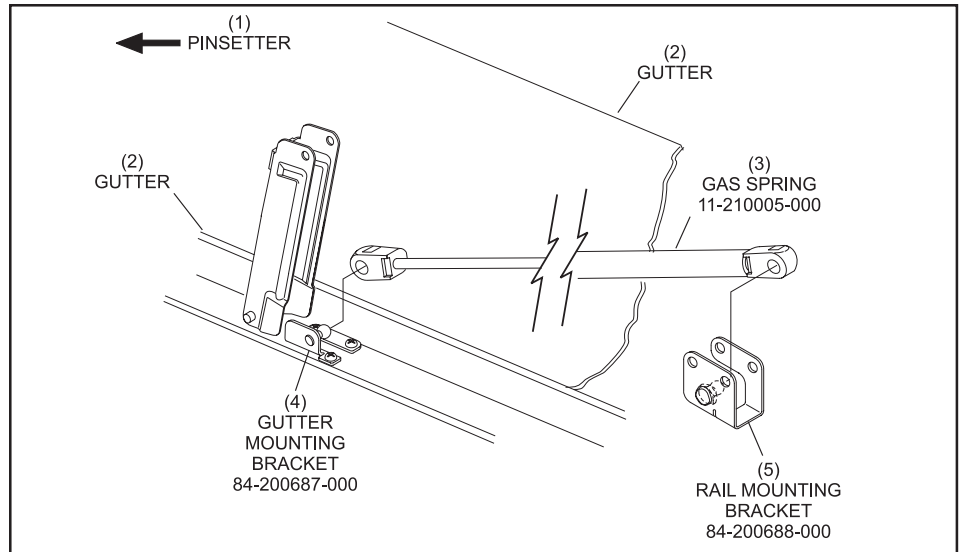

Figure 8. Gas Spring Installation
- Assemble the gas spring, 11-210005-000, to the gutter mounting bracket, 84-200687-000, and the rail mounting bracket. The gas spring simply snaps onto the ball on each bracket. Refer to *Figure 8*. No tools are needed.